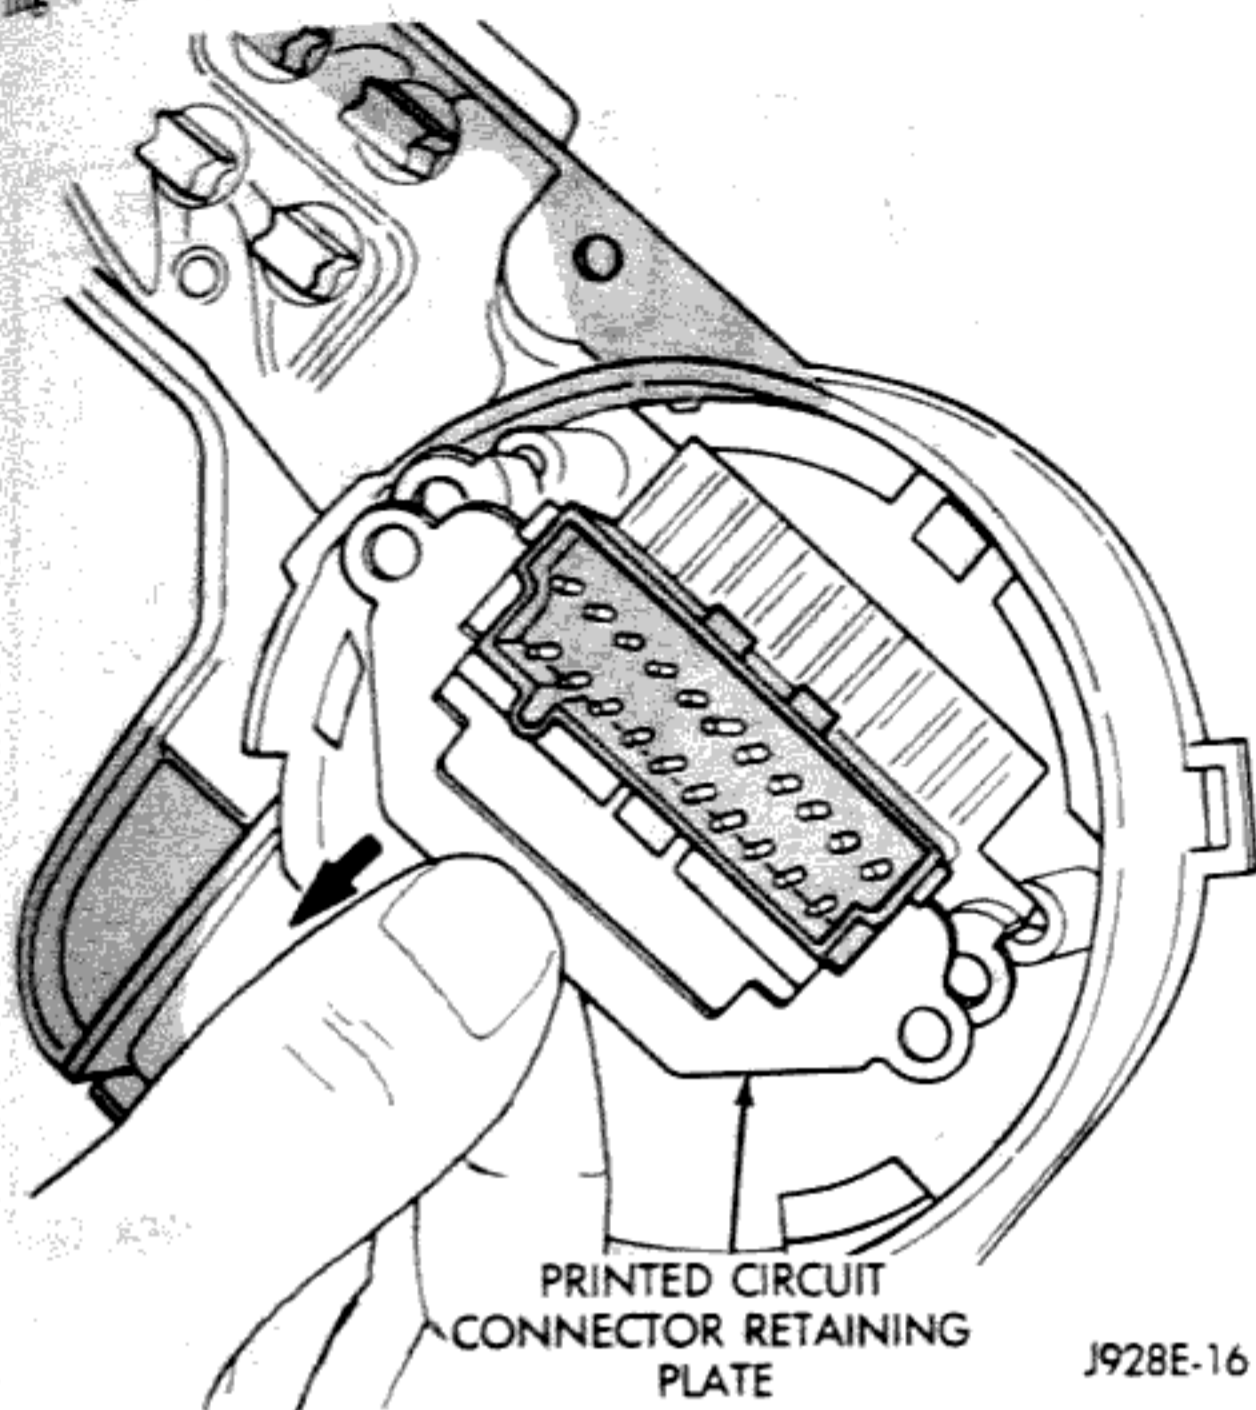

Fig. 19 Cluster Connector Retaining Plate
(5) To remove plate, slide it toward bottom of housing (Fig. 19).